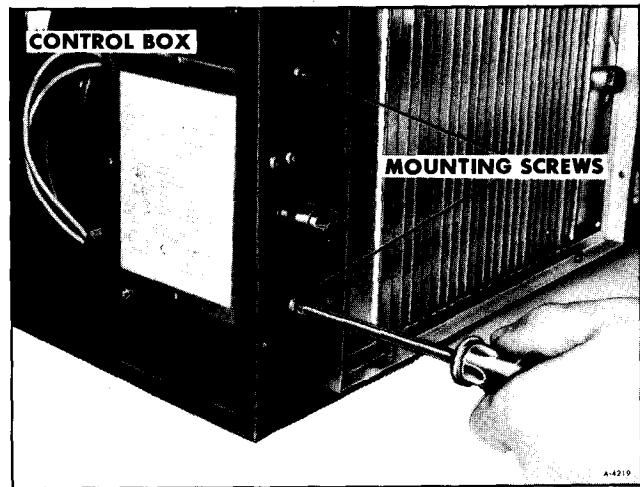

Figure 23—Removing Control Box
5. Remove two control box mounting screws (See figure 23).
1. Position control box as shown in Figure 23. Install two control box mounting screws.